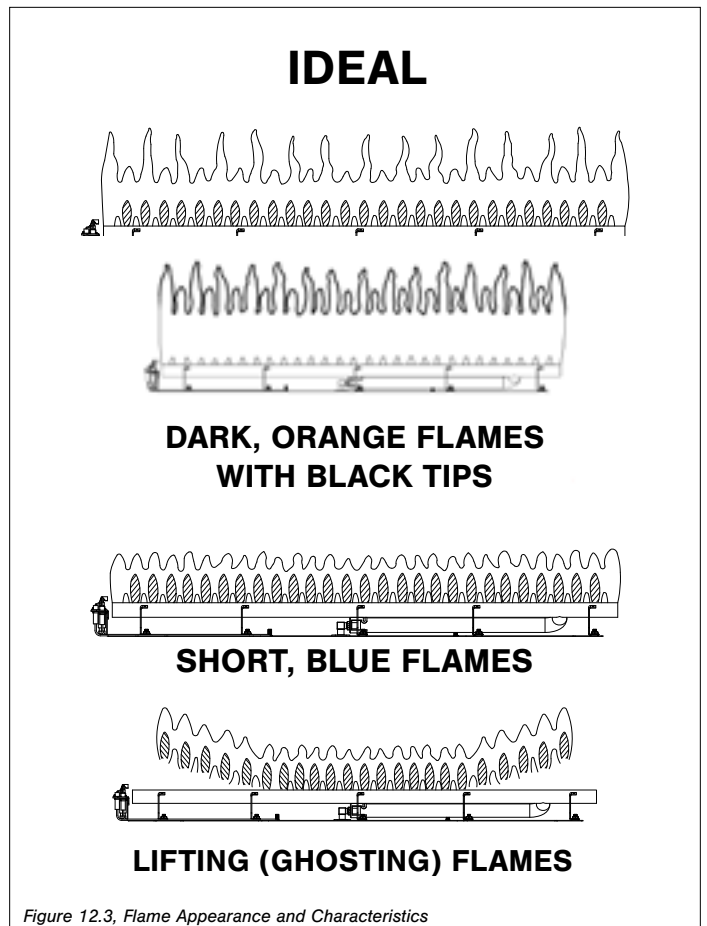

Figure 12.3, Flame Appearance and Characteristics
IMPORTANT: Slight adjustments to the venturi opening will create dramatic results. Adjust at slight increments until desired look is achieved. Follow Table 12.5 and Figure 12.3.
- Visually check pilot light and burner flame pattern when in operation. Flames should be steady, not lifting or floating. Refer to Figure 12.3, Flame Appearance and Characteristics on page 43.